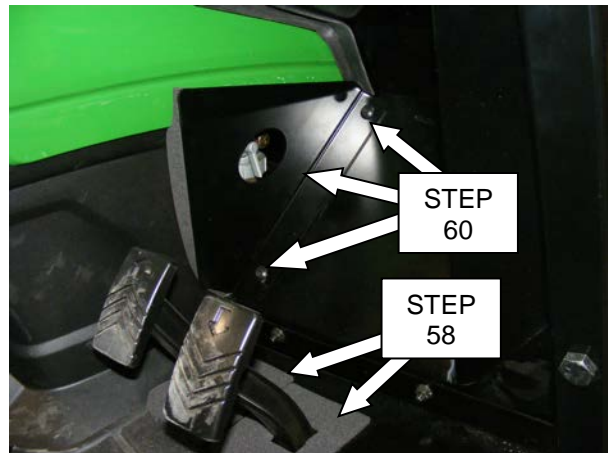

Figure 23
58. Apply two deck seals (16) to deck, at RH pedal location as shown in **Figure 23**.
(2) 1/4" flange nuts (E)
60. Secure RH lower front filler panel (15) to RH cab pedal pocket (6) using (**Figure 23**);